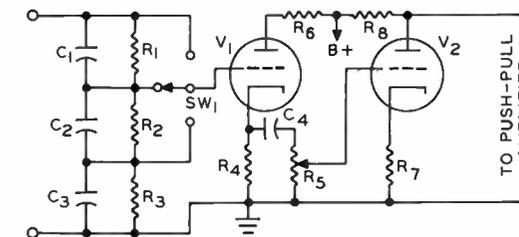

FIGURE 7
23. (a) in phase -- A cathode follower stage does not invert a signal. In Figure 7, the signal at the cathode of  $V_1$ , coupled through  $C_4$  to  $R_5$ , is in phase with the signal applied to the grid of  $V_1$ .